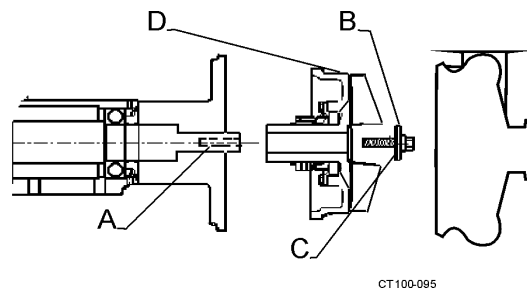

**Figure 37 - Installing the Guard**
- 9. Install and position the seal guard. (Figure 37).